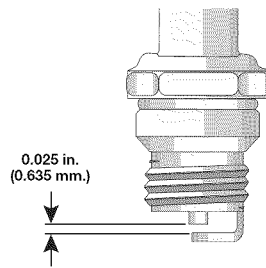

Fig. 22
4. Replace cracked, fouled or dirty spark plug. Set the air gap at 0.025 in. (0.635 mm) using a feeler gauge (Fig. 22).